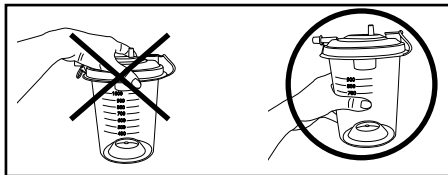

Figure 6
**Note: Never hold the container by the lid to carry it. The filled container can come off the lid and fall down to the floor (Figure 6). Use the secretion outlet to empty the secretion container.**